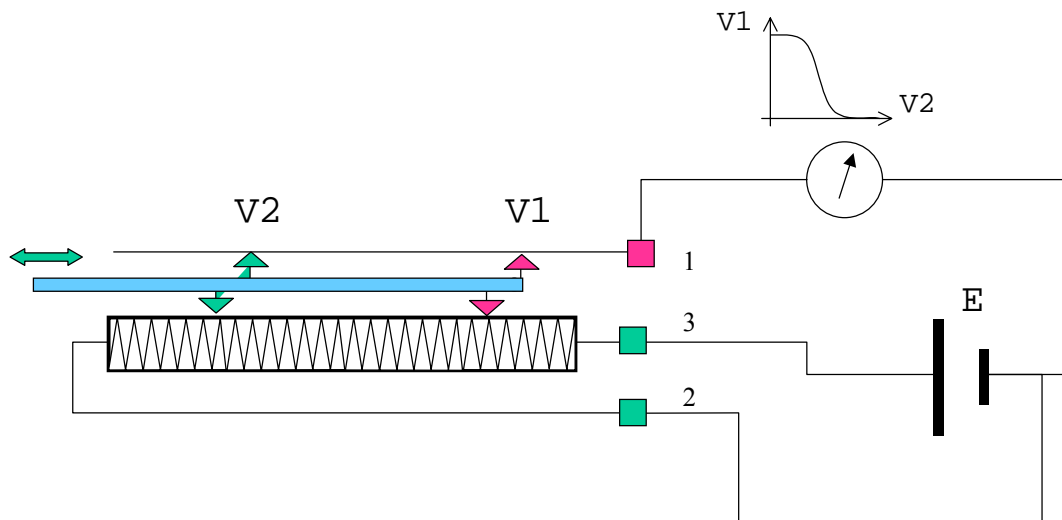

**Fig 2.11b Rotary Transducer**
- Rotary displacement transducer, or rotary transducer (fig.2.11b)